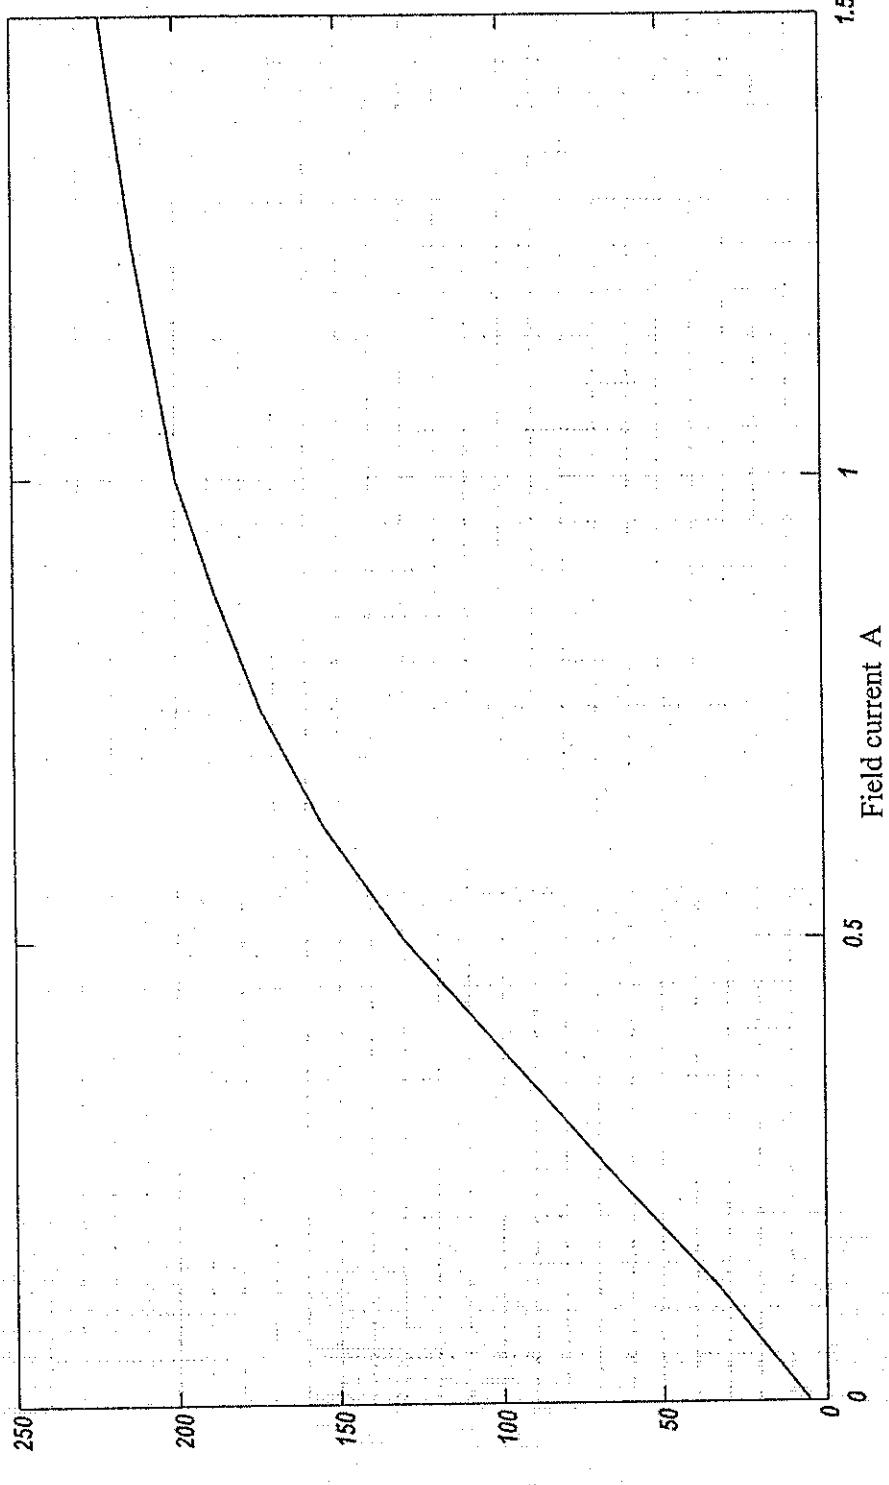

Figure 3
4. (a) The armature and field resistances of a dc machine are 0.15Ω and 150Ω , respectively. The effects of armature reaction can be neglected. The magnetization curve of the machine obtained at a speed of 1700 rpm is shown in Figure 3 on page 6. Consider the following cases: